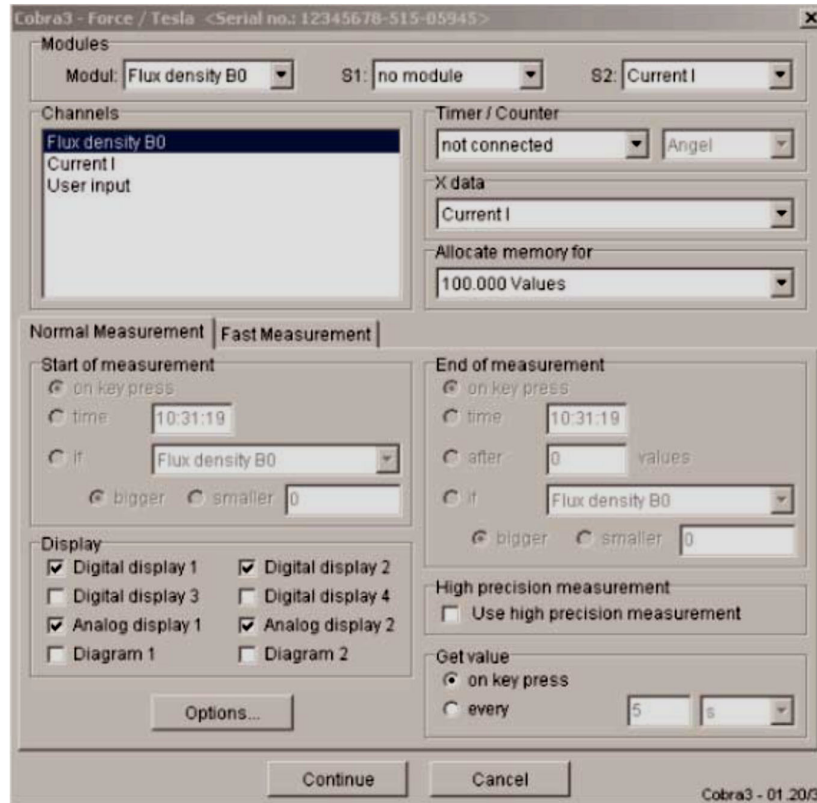

Figure 4: Measuring parameters for the ferromagnetic hysteresis
8. Set the measuring parameters in the software according to Figures 4 and 5.